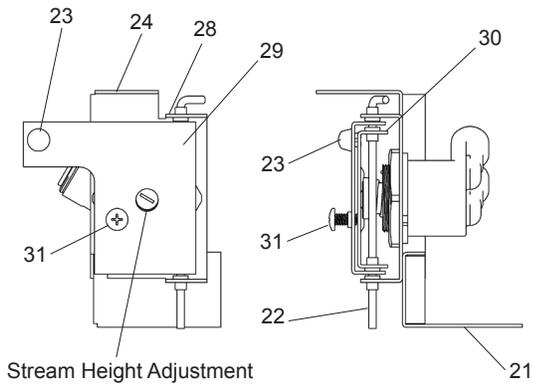
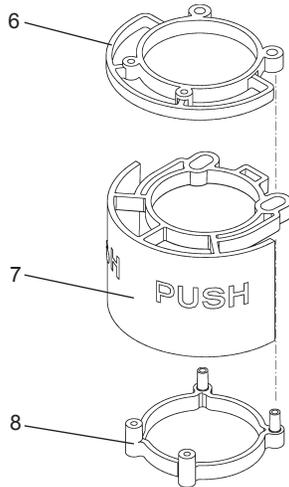

Figure 7
Figure 8 - Push Bar Mechanism
14. **Check** stream height from bubbler. Stream height is factory set for 35 PSI supply. If supply pressure varies greatly from this, remove push arm (Item 7 - Fig. 8) and adjust the screw on the regulator (Item 19 - Fig. 7). To remove push button, remove bottom plate (Item 8). Clockwise adjustment will raise stream height and counterclockwise movement will lower stream height. For best adjustment stream should hit basin approximately 6-1/2" from the bubbler. Reassemble the push bar (Fig. 8).